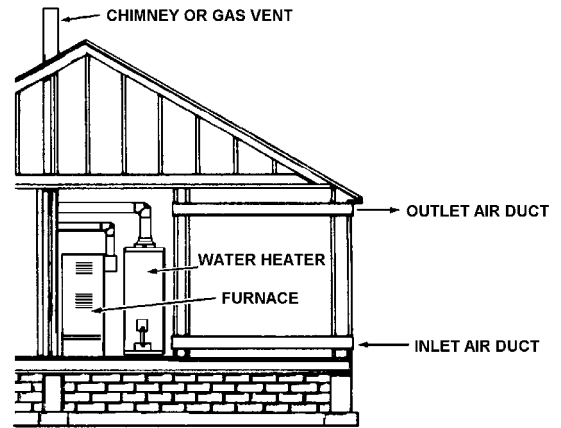

FIGURE 8.
3. When communicating with the outdoors through horizontal ducts, each opening shall have a minimum free area of 1 square inch per 2,000 Btu per hour (11 cm2/kW) of total input rating of all equipment in the enclosure, see Figure 8.
4. When ducts are used, they shall be of the same cross-sectional area as the free area of the openings to which they connect. The minimum short side dimension of rectangular air ducts shall not be less than 3 inches (76.2 mm), see Figure 8.